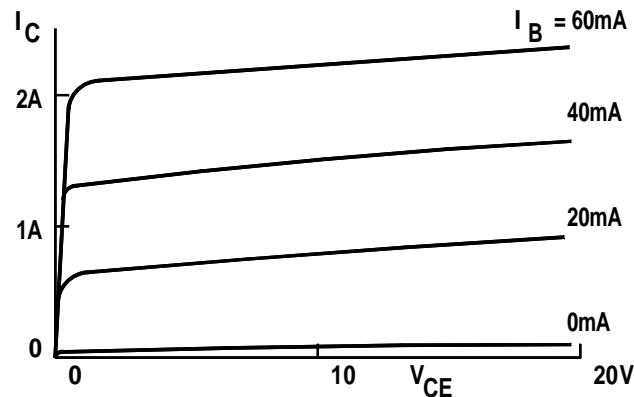

Figure 30.7: 2N3055 power transistor output characteristics.
- 30.3 The characteristics for a 2N3055 power transistor are shown in Figure 30.7. Estimate the current gain for collector voltages of 5 V and 10 V.